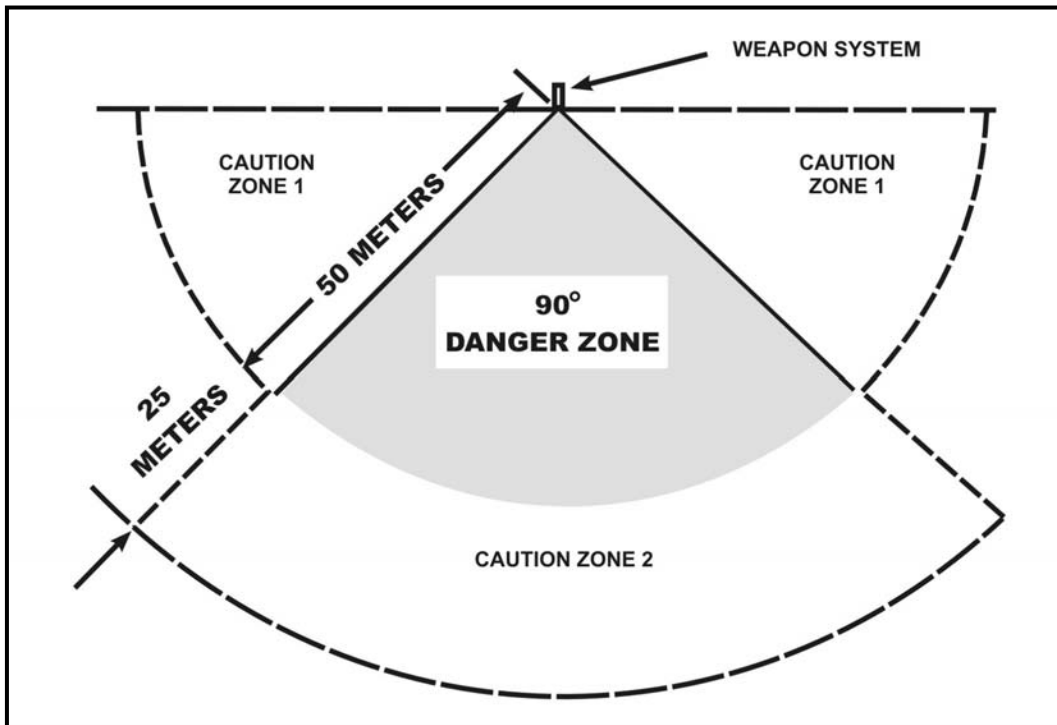

Figure E-3. ATWESS danger zone.
b. Before pulling the PULL-TO-ARM switch, always check to ensure no personnel or equipment (antennas) are in the ATWESS danger zone. This zone extends for 75 meters behind the ATWESS firing chamber and covers an arc 90 degrees wide (Figure E-3).